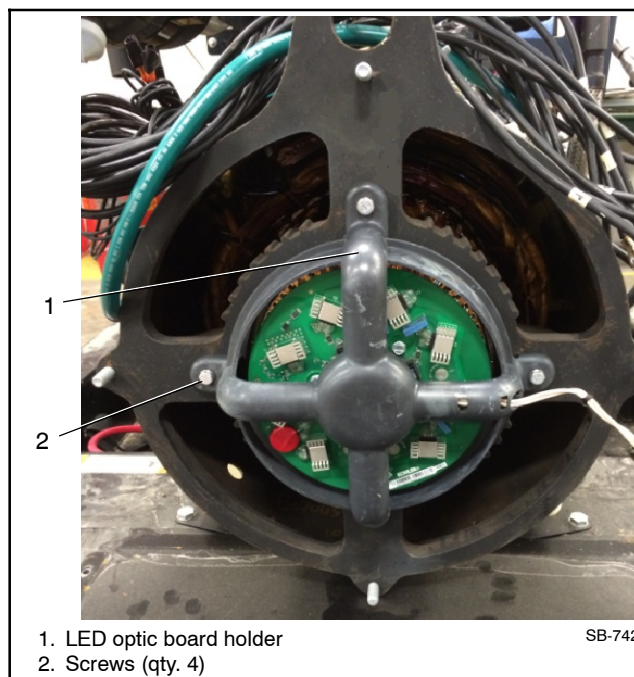

Figure 10 Replacing LED Optic Board Holder
- 4.6 Replace and tighten the 4 screws attaching the LED optic board holder to the end bracket and torque to 6.2 Nm (4.6 ft. lbs.). See Figure 10.